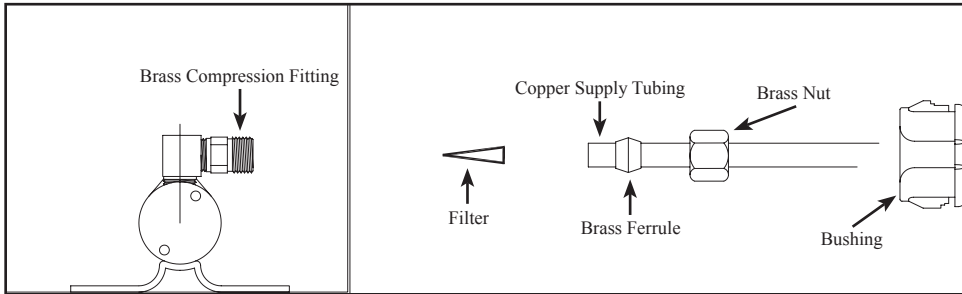

FIGURE 4
5.3 **IMPORTANT:** To assist you with cleaning, note the proper orientation of parts for assembly and disassembly (Figure 4, below).
9.5 The inline water filter should be cleaned at the end or beginning of each heating season. To do so, loosen the hex nut (see Figure 4, left, top), slide the tubing out of the tube connector and remove the filter. At this time, the solenoid valve may be disassembled for cleaning.